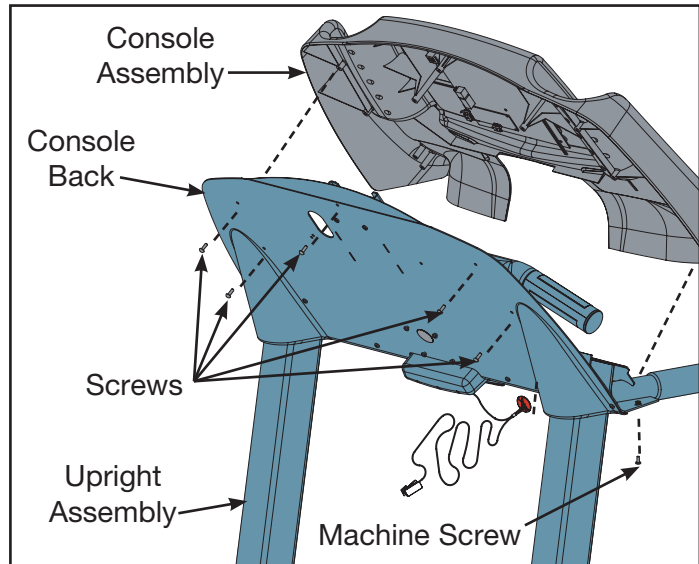

Figure 10
G. Using a Philips head screwdriver secure the two screws (#14) securing the console back cover (#5) to the console front (#4). See Figure 10.
A. Using a Phillips head screwdriver, partially tighten each motor cover side (left and right) with four screws, 10-32 x .75" (#16). See Figure 10.